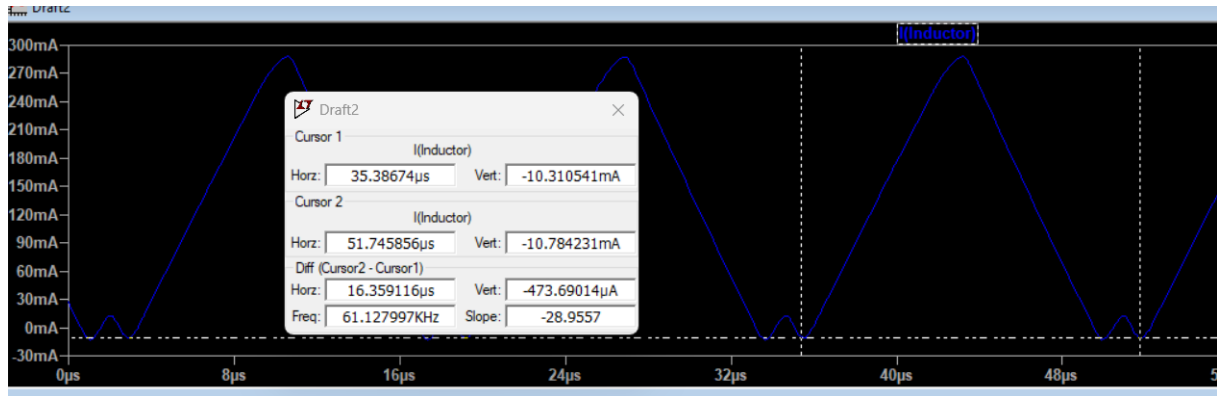
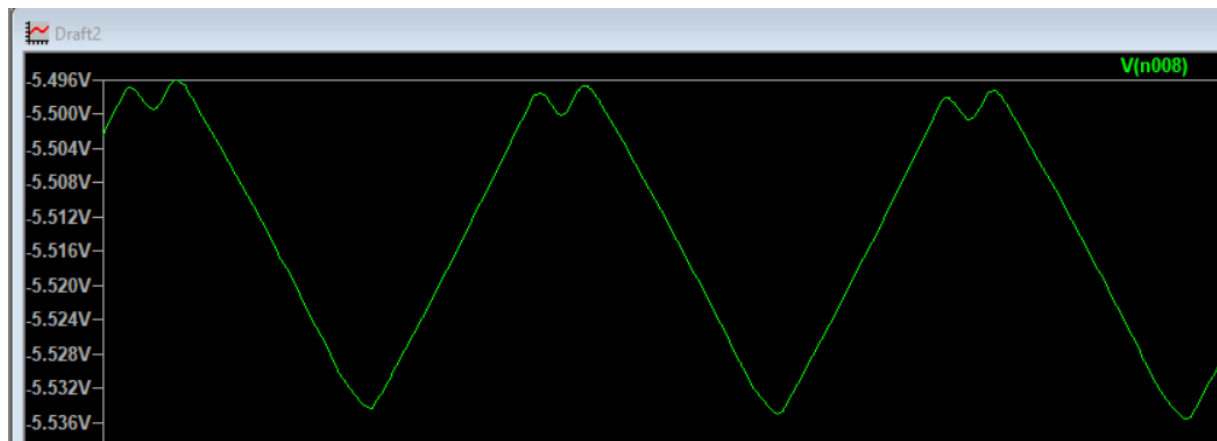

Fig. 16: New T_s value with $R_L=47$
Fig. 17: Output voltage with $R_L=47\Omega$
- l) In order to get the previous voltage at the output which is 5.5V, some adjustments need to be done. Currently, with $R_L=47\Omega$, $V_o=7.1V$. To reduce this value to 5.5V, I swapped the R_A and R_B values. As a result, both T_s and duty cycle values are changed. New T_s value is $16.36\mu s$ (Fig. 16) and duty cycle value measured $D=0.462$ ($t_{ON}=7.54\mu s$) (Fig. 17). The value found at f) for duty cycle is 0.388, and here is 0.462. It is seen that due to voltage drops across diode and resistors, duty cycle has increased. Output voltage can be observed from Fig. 17, which is measured as around -5.5V.